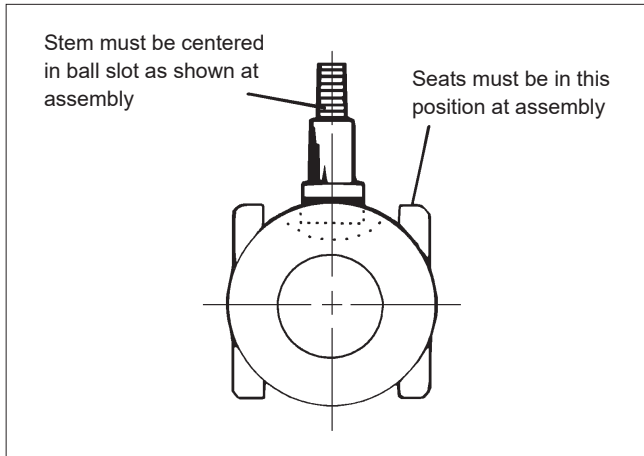
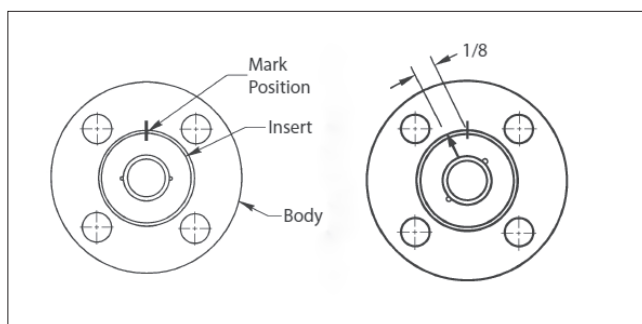

Figure 7. Proper Seat and Ball Orientation
Figure 11. Insert Installation
4. Carefully clean and polish the ball (3) sealing surface: It should be free of all scratches and grooves.
6. With the body insert side facing up, slide one valve seat (5) sideways into the body (1) to below the stem bore, and tilt it into place so that the proper surface (see **Figure 7**) will be adjacent to the ball (3), being careful not to cut or scratch the seat.
11. Screw the insert (2) into the body until it is fully down, and then mark its position as shown in the left view of (**Figure 11**). Counting the number of turns, remove the insert.
- Place the valve in a vertical position, insert end up, on a clean soft surface such as a folded rag or a piece of cardboard. If the valve has grounded option, insert bottom grounding spring (71) into hole at the bottom of the stem (4). Insert the ball (3) rotating it onto the stem (4) in the closed position. If necessary, turn the stem blade to align with the ball slot. Make certain that the stem blade is in the middle of the ball slot; i.e. equal distance from the ends of the slot. Rotate the ball if necessary (see **Figure 7**).
- Place the second seat (5) into the insert (2) with the proper surface (see **Figure 7**) adjacent to the ball.
- Insert the body seal (6) into the body, and gently press it into the groove.
- Apply a lubricant compatible with the flow media to the threads of insert (2) and screw the insert into the body. The tightening of the insert should be done using the insert field wrench. The insert must be tightened the same number of turns as in Step 12, insuring that the marks are no more than 1/8" (3.18 mm) apart, as shown in right view of (**Figure 11**).
- Carefully clean and polish the ball (3) sealing surface: It should be free of all scratches and grooves.
- With the body insert side facing up, slide one valve seat (5) sideways into the body (1) to below the stem bore, and tilt it into place so that the proper surface (see **Figure 7**) will be adjacent to the ball (3), being careful not to cut or scratch the seat.
16. Place the stud nut (30) on each stud (29) and tighten nuts a few turns alternately so that the compression plate (20) remains parallel with the body bonnet. Do not fully torque down stud nuts (30) at this time.
17. Insert the *Emission-Pak* subassembly into the body, being careful not to damage the *Emission-Pak* housing seals. A lubricant, compatible with the flow media, **MUST** be applied to the stud (102) threads and the face of the nut (111).
19. Once metal to metal contact has been achieved, tighten the nuts (111) to the torque values in (**Table 4**). Apply the torque evenly in a crisscross pattern.
20. Screw the insert (2) into the body until it is fully down, and then mark its position as shown in the left view of (**Figure 11**). Counting the number of turns, remove the insert.
21. Place the valve in a vertical position, insert end up, on a clean soft surface such as a folded rag or a piece of cardboard. If the valve has grounded option, insert the bottom grounding spring (71) into the hole at the bottom of the stem (4). Insert the ball (3) rotating it onto the stem (4) in the closed position. If necessary, turn the stem blade to align with the ball slot. Make certain that the stem blade is in the middle of the ball slot; i.e. equal distance from the ends of the slot. Rotate the ball if necessary (see **Figure 7**).
22. Place the second seat (5) into the insert (2) with the proper surface (see **Figure 7**) adjacent to the ball.
23. Insert the body seal (6) into the body, and gently press into the groove.
24. Apply a lubricant compatible with the flow media to the threads of insert (2) and screw the insert into the body. The tightening of the insert should be done using the insert field wrench. The insert must be tightened the same number of turns as in Step 20, insuring that the marks are no more than 1/8" (3.18 mm) apart, as shown in right view of (**Figure 11**).
25. While pulling the stem (4) outward, tighten the hex nuts (30) to the torque values in (**Table 2**). Apply the torque evenly, alternating between the two nuts so that the compression plate (20) remain parallel with the *Emission-Pak* housing bonnet.
27. Replace top grounding spring (70) and retaining ring (72) to stem (4).